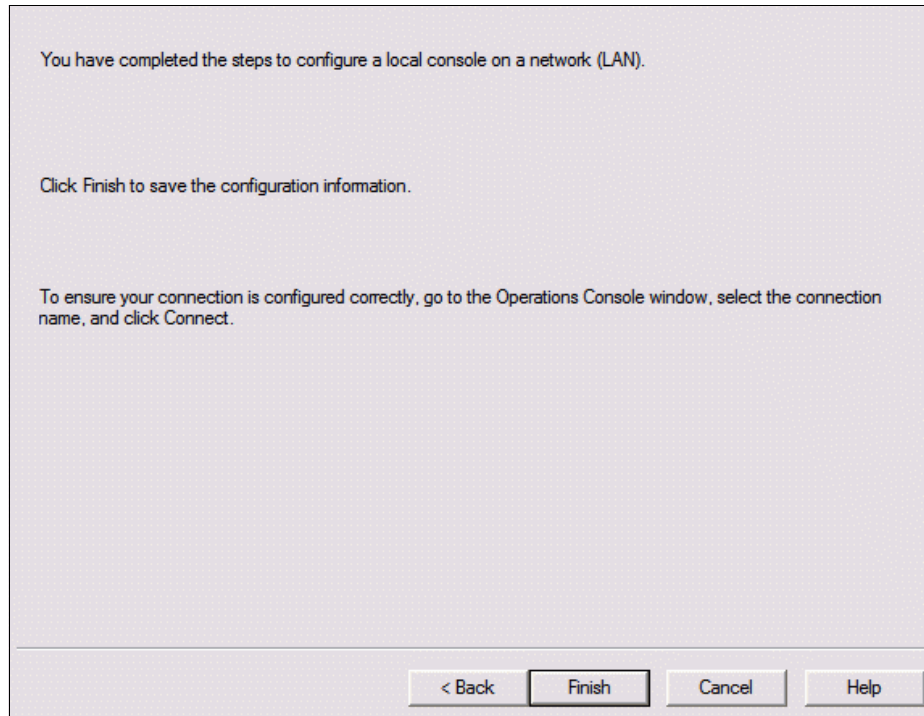

Figure 7-45 IBM System i Operations Console - finalizing the setup
10. Figure 7-45 on page 291 shows the final window that is displayed after you define the recommended information for an IBM System i Operations Console.